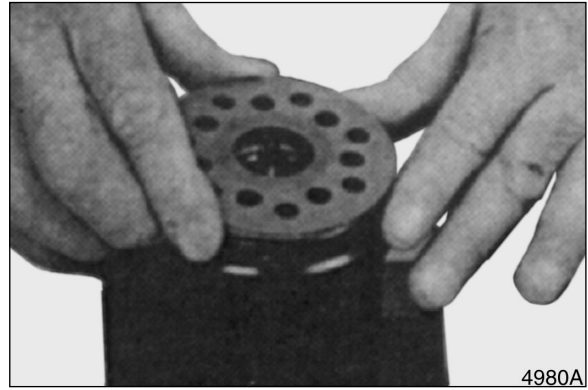

Figure 50
20. Install distributor plate. See Figure 50. Be sure to properly align plate holes with holes in middle plate.